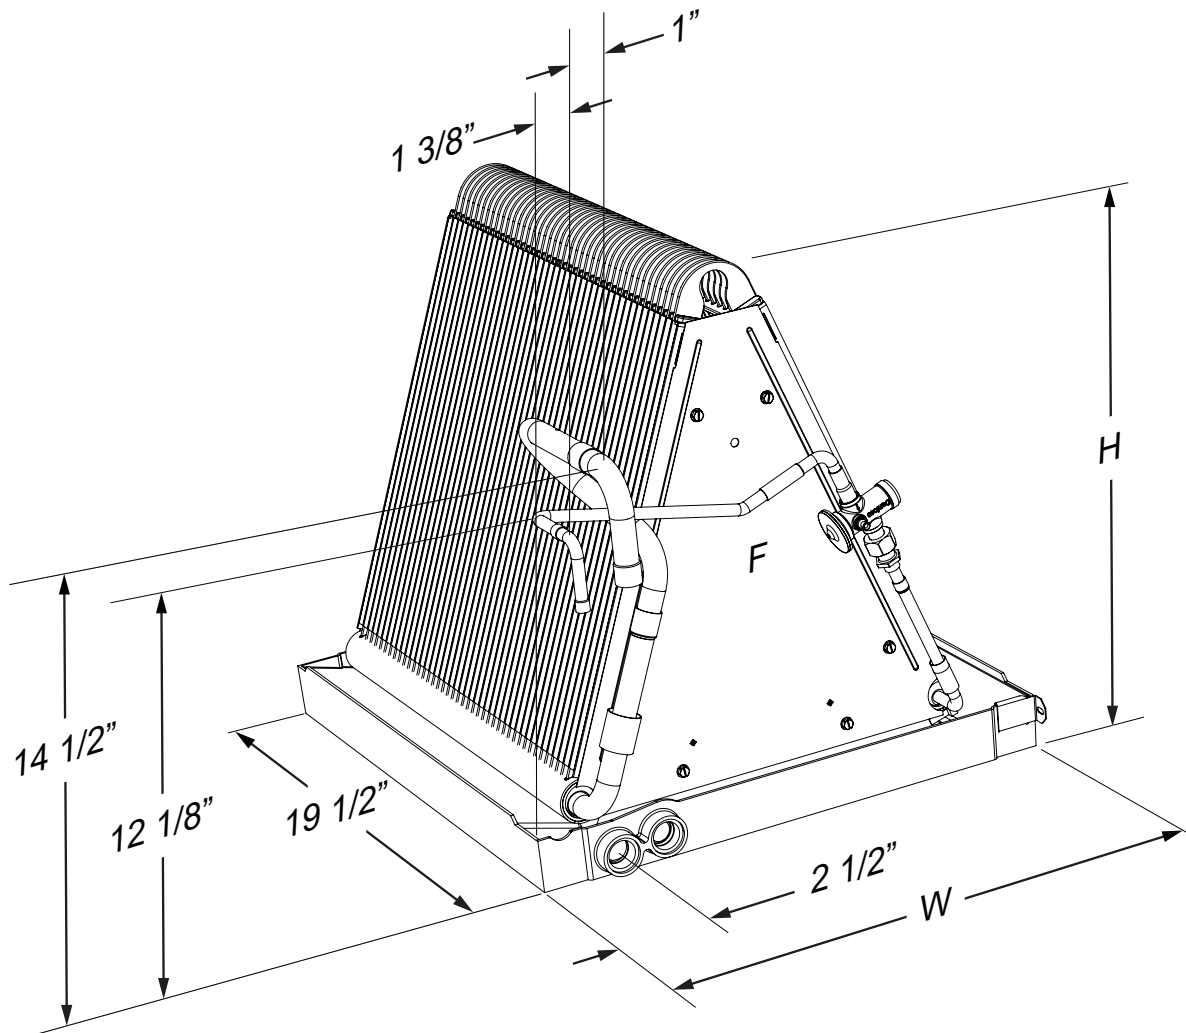

Figure 2. C84DA Coil Dimensions
2. Install the coil case on the furnace air discharge opening and level it as needed to ensure proper condensate drainage. If needed, make a plate to adapt the coil to the air discharge opening. See Figure 2 (page 6) for coil dimensions.